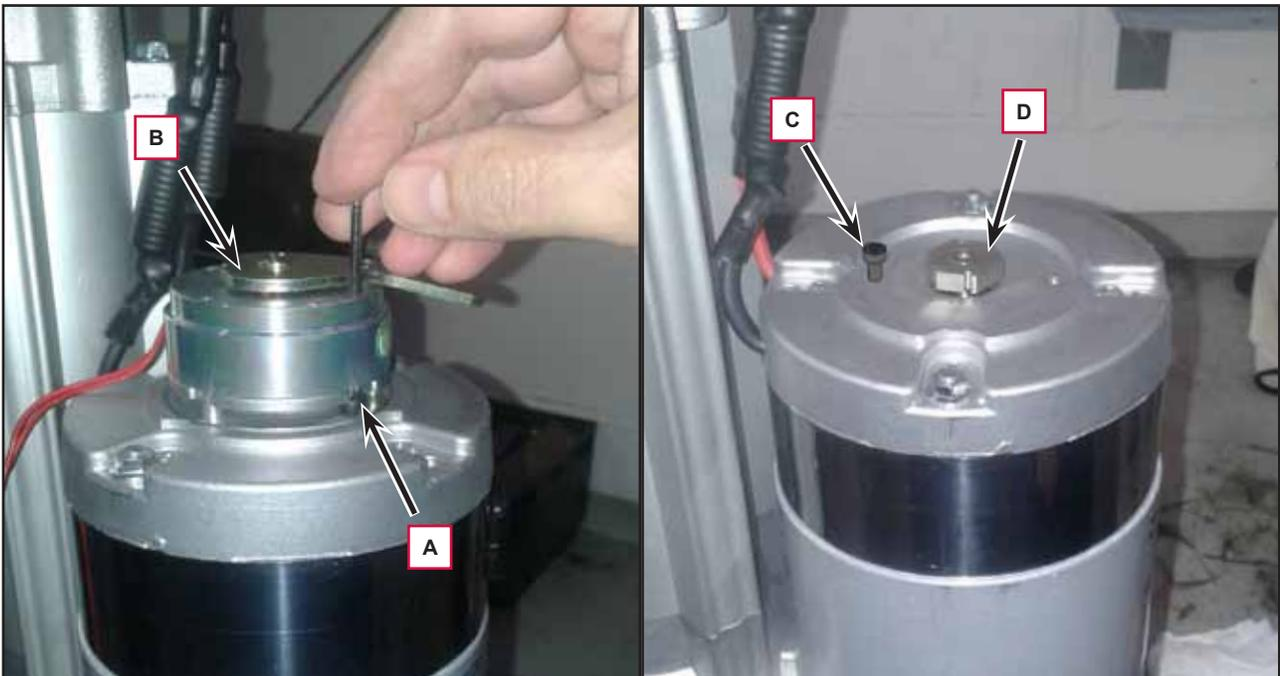

Figure 7
3. Remove the two screws (A, Figure 7) and the electromagnetic brake (B).